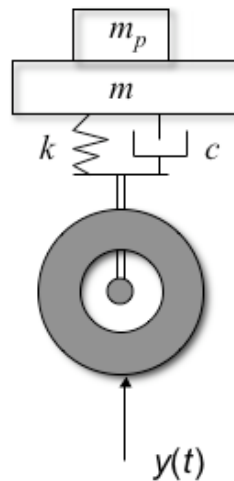

Figure P2.46 Model of a car suspension with the mass of the occupants, m_p , included.
- 2.46** Consider Example 2.4.1 for car 1 illustrated in Figure P2.46, if three passengers totaling 200 kg are riding in the car. Calculate the effect of the mass of the passengers on the deflection at 20, 80, 100, and 150 km/h. What is the effect of the added passenger mass on car 2?
- 2.49** Consider the effect of variable mass on an aircraft landing suspension system by modeling the landing gear as a moving base problem similar to that shown in Figure P2.46 for a car suspension. The mass of a regional jet is 13,236 kg empty and its maximum takeoff mass is 21,523 kg. Compare the maximum deflection for a wheel motion of magnitude 0.50 m and frequency of 35 rad/s, for these two different masses. Take the damping ratio to be $\zeta = 0.1$ and the stiffness to be 4.22×10^6 N/m.